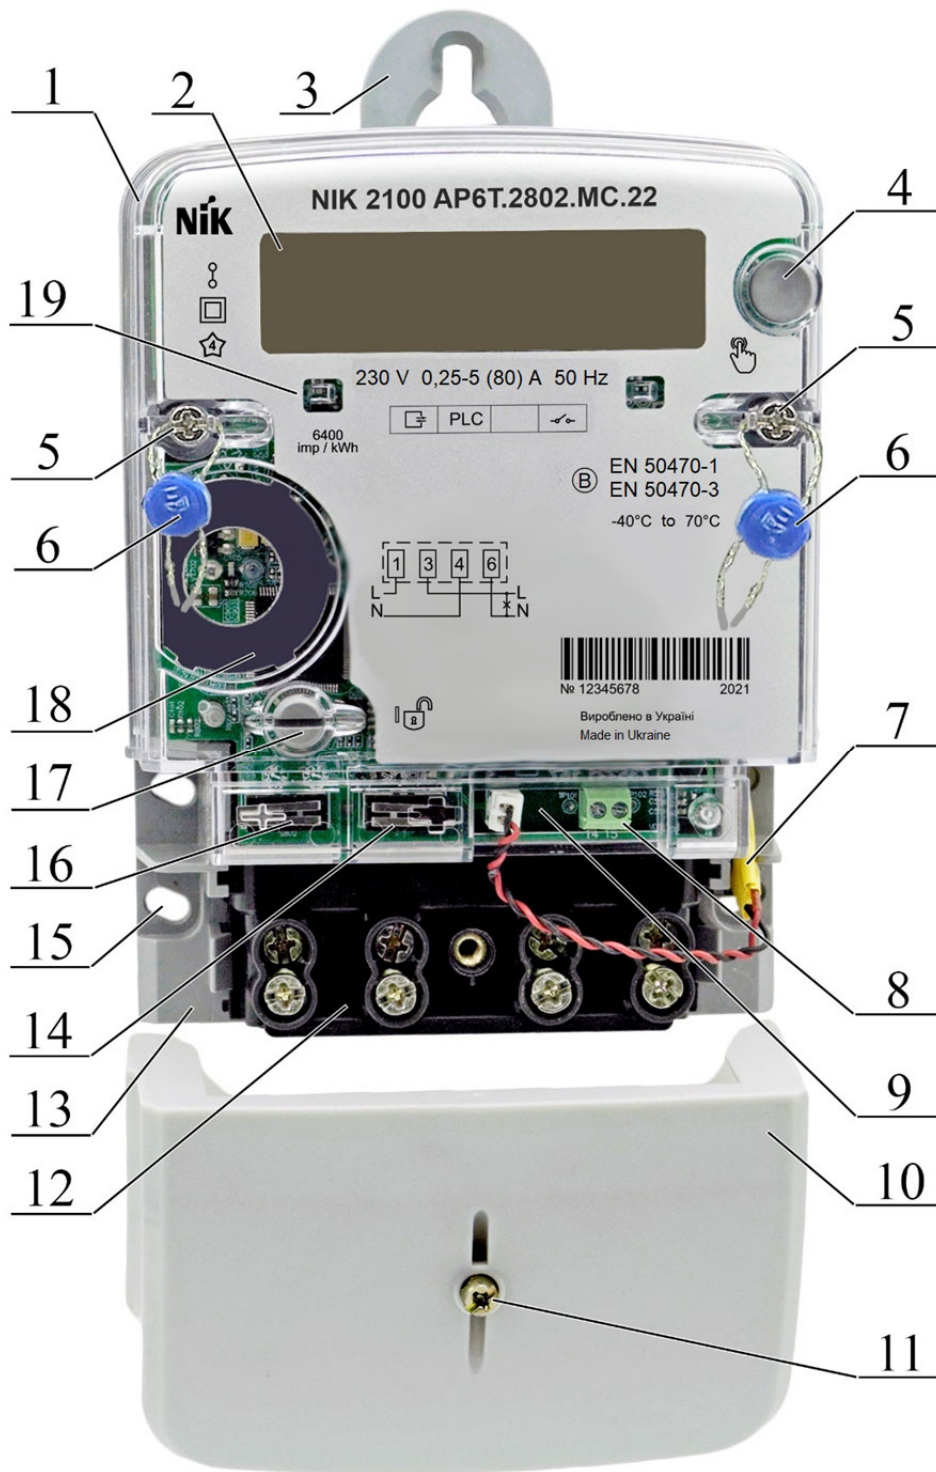

Figure 1. General view of the meter NIK 2100 A...P6...
A general view of the meter NIK2100 A...P6... is shown in Figure 1. The left part of the figure shows The meters with the terminal cover and without it are shown on the left and right part of Figure 1 respectively. The Figure 1. General view of the meter NIK 2100 A...P6... shows the following elements and components:
The meters are equipped with a "View" button (see Figure 1, item 9). The button is used to switch the menu on the electronic display when the meter is connected to the mains. In the absence of mains voltage, the meter operates in battery mode. Pressing the "View" button in the battery mode turns on the meter for a while in the display mode. Switching of the menu also allows to read the measured and saved values. The duration of operation of the meters in the display mode and the list of displayed windows depends on the parameterization of the meters.